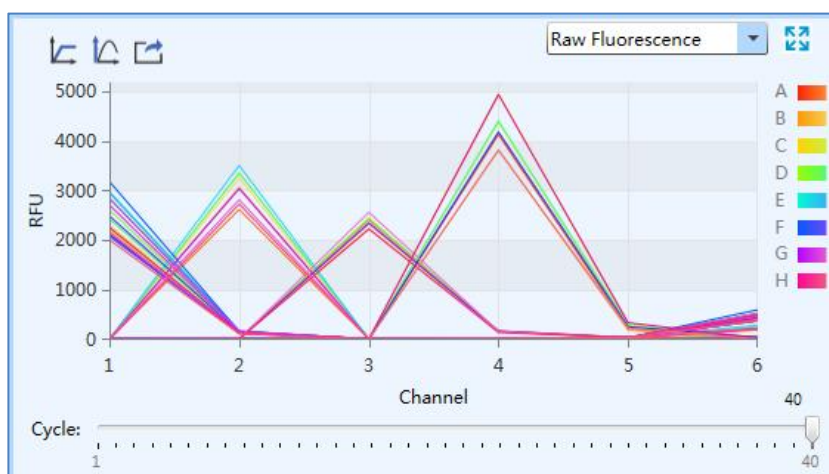

Figure D-9.6. Abs Quant Analysis Interface - Raw Fluorescence Functional Module
- VI. **Raw Fluorescence**: display the raw fluorescence data map of the current experiment, as shown in figure D-9.6.